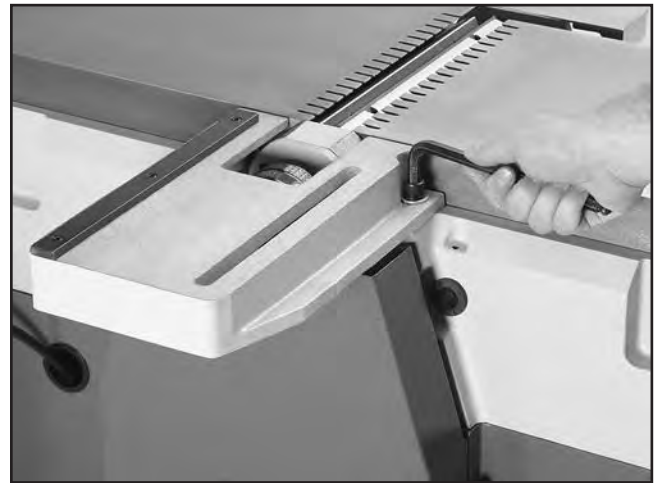

Figure 8. Installing fence bracket.
1. Align the mounting holes on the fence bracket and jointer, and fasten with the M12-1.75 x 30 cap screws, flat washers and lock washers as shown in **Figure 8**.